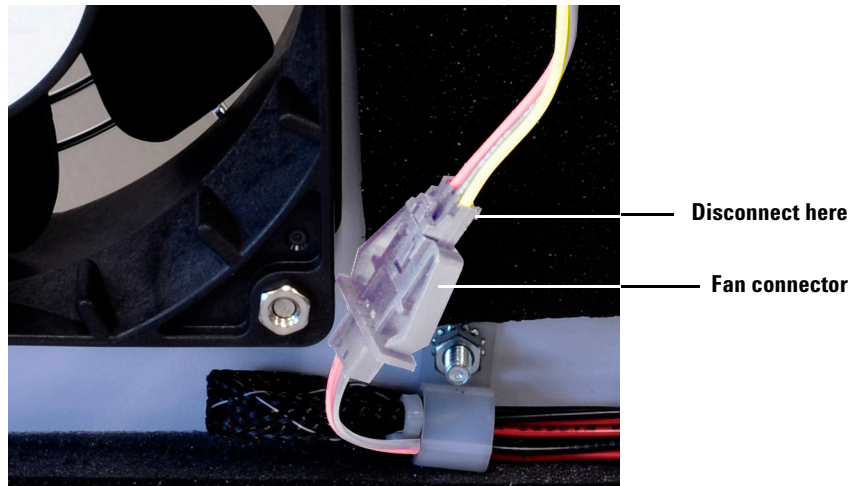

Figure 6 Disconnecting the fan cables (G6011A)
- 2 Disconnect the fan cable at the fan connector of the wiring harness (see Figure 6).